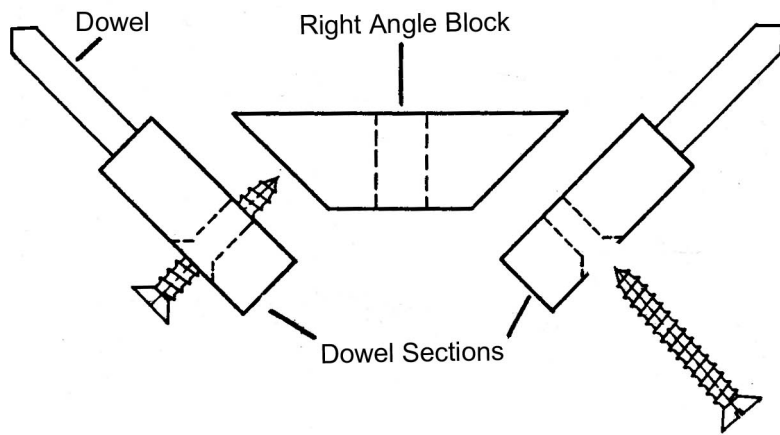

FIGURE 1
1. Install the tapered dowels into each of the four sections. Using the dowel setting block provided to do this, place the tapered end of each dowel into the hole in the end of the dowel-setting block. Align the flat end of the dowel with the hole in the section and tap the dowel in. If any of the dowels fit loosely, glue them into the hole with a small amount of white wood glue. (Figure 1)
2. Loosely attach two dowel sections to three right angle blocks using six screws. After all six screws are installed, go back and tighten them up. (Figure 1)
4. Remove the screws that hold the warp beam apron in place and remove the apron from your loom's warp beam. (Figure 1)